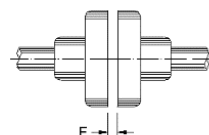

Figure 4.13: Axial clearance of the coupling (E)
Align the shaft ends carefully, and, whenever possible, use flexible coupling, leaving a minimum clearance (E) of 3 mm between the couplings, as shown in Figure 4.13.